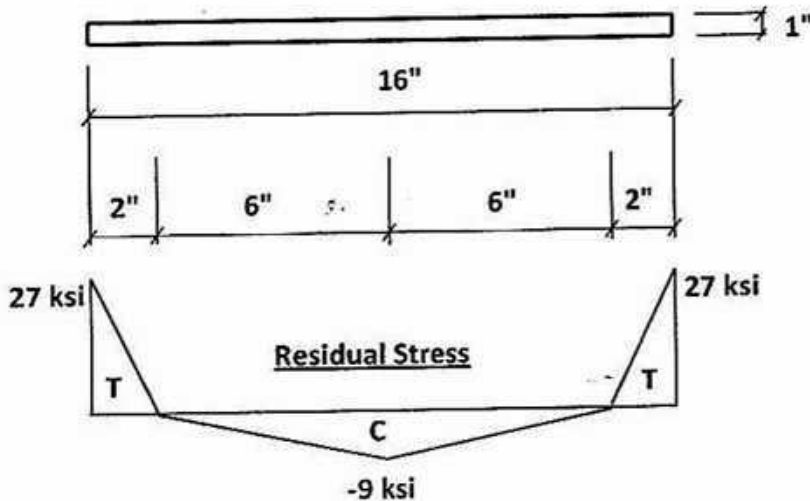

Fig. 3
4. The residual stress for a 16x1-in. plate to be used as a tension member is shown in Fig. 3. Determine the average stress in the plate at an imposed tensile strain of 0.0014. Given:  $F_y=36$  ksi;  $E=30000$  ksi. 16 2/3